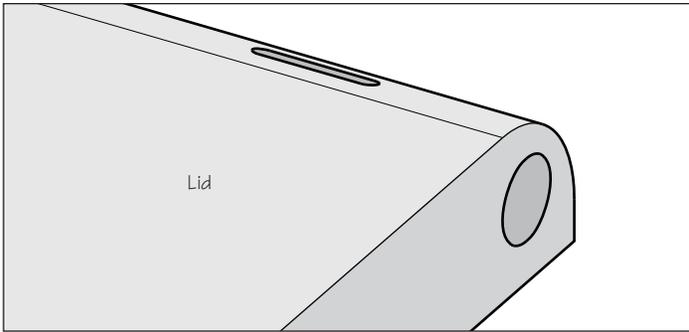

Figure 6: Rounding over the lid.
8. To provide clearance for opening the lid, round over the slotted edge of the lid, as shown in **Figure 6**.